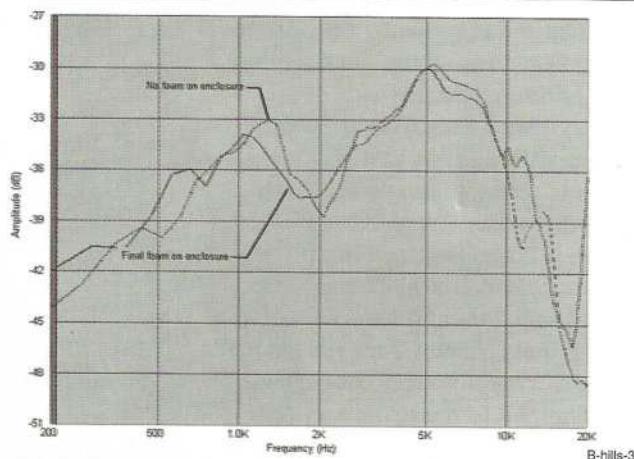

FIGURE 3: Improvement in the frequency response around 2kHz by adding foam to the enclosure edge measured by SpeakerWorkshop.
*Figure 3* shows the results of a one-